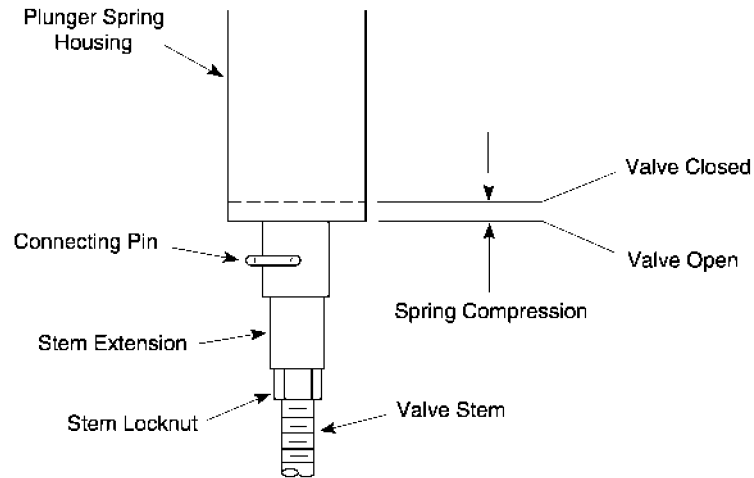
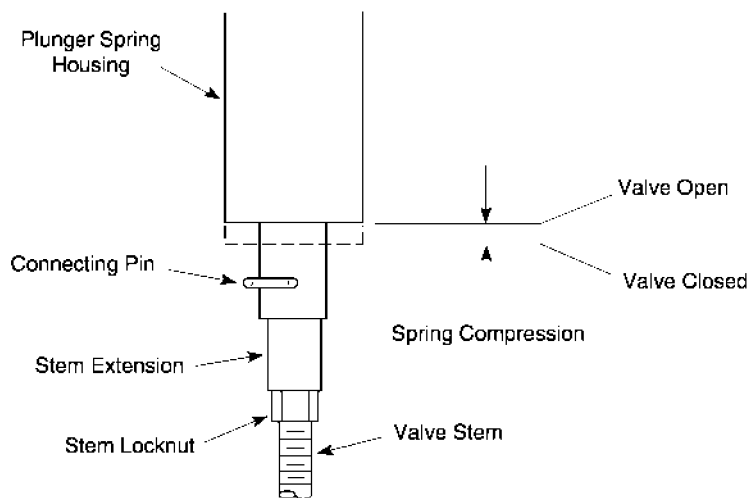

Figure-6 Valve Compression Stem Up.
Figure-7 Valve Compression Stem Down.
1. Drive the actuator so that the valve stem is fully up. If the valve is a three-way, check for plunger compression. See Figure-6.
2. Drive the actuator so that the valve stem is fully down. Check for plunger compression. See Figure-7.
*Note:* Check the plunger spring compression, refer to Figure-6 and Figure-7. The length of the stem extension should be adjusted so that the valve disc seats before the actuator reaches the end of the closing stroke. The balance of the actuator stroke is taken up in the plunger spring compression, which should be approximately 1/16" (1.6 mm). This provides pressure on the disc in the closed position(s) and also compensates for disc and seat wear. On three-way valves, spring compression must be provided on both upper and lower seats.